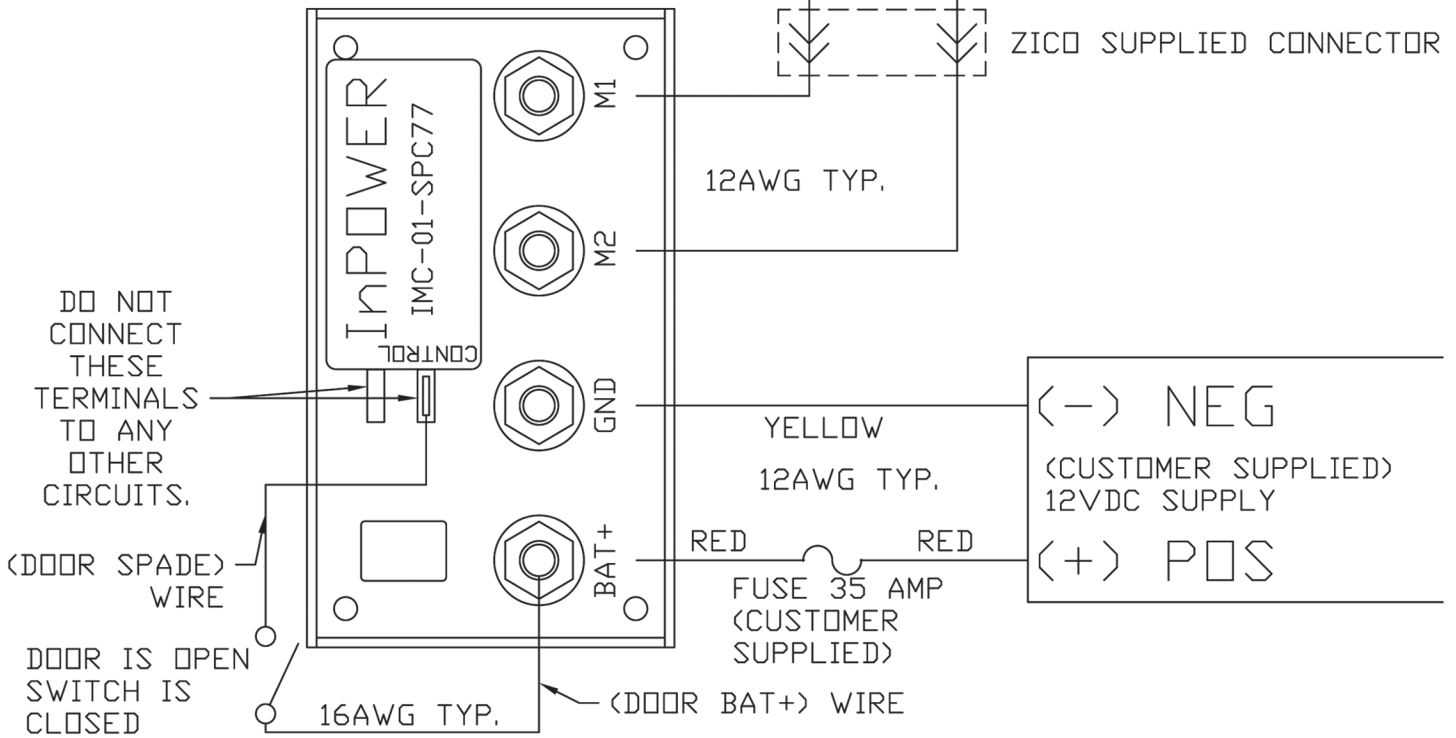

Figure 1
1. On the wires connecting the old InPOWER module to the vehicle (see Figure 1):